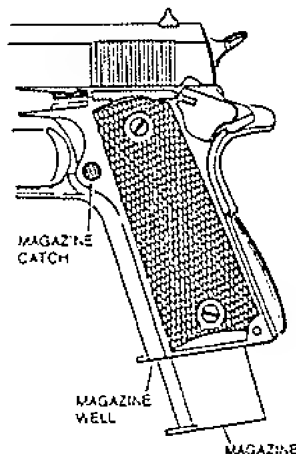

FIGURE 4—MAGAZINE PARTIALLY INSERTED
2. Remove magazine from pistol. Place your hand under magazine to prevent it from falling. Press magazine catch (located on left side of pistol behind trigger guard) to drop the magazine out of the magazine well (See Figure 4).